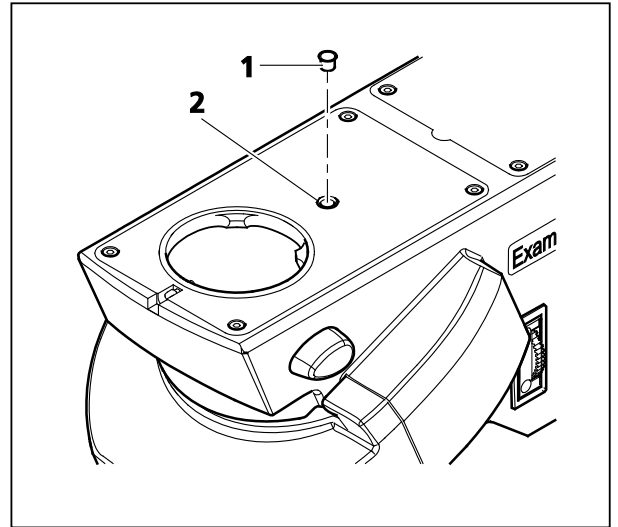

Figure 3-46 Setting the lock-in resistance
- Pull the closing plug (Figure 3-46/1) out of the upper microscope part.
- Turn the adjusting screw (Figure 3-46/2) using a ball head screwdriver until the desired lock-in resistance is set.
- Insert the closing plug again (Figure 3-46/1).